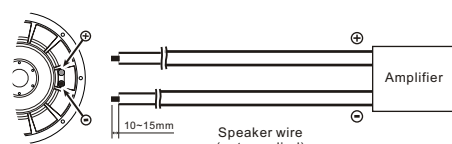
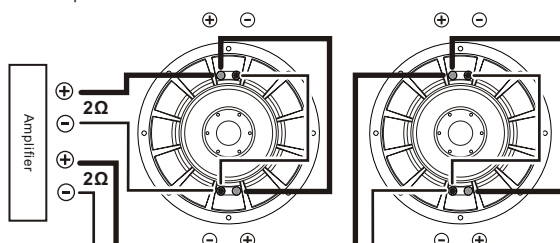

Fig.4
Fig.8
5. Connect the subwoofer to the amplifier. (Fig.4-Fig.8)